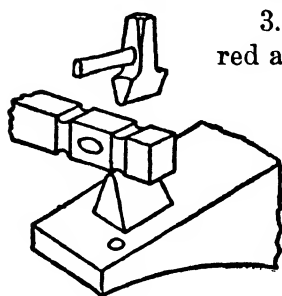

FIG. 35
3. Heat the work to be fullered to a bright red and with the tongs in the left hand place the stock on the bottom fuller. Hold the top fuller directly over the bottom fuller, Fig. 35, and have the helper strike medium heavy blows.